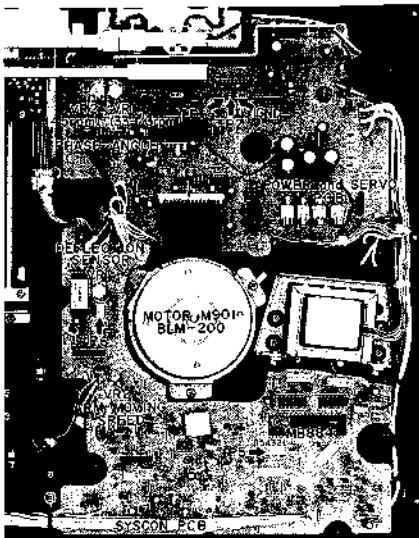

Fig. 22
(Refer to Figs. 22, 25)
- 4) Turn Syscon P.C Board VR1 (Fig. 22) counterclockwise all the way.